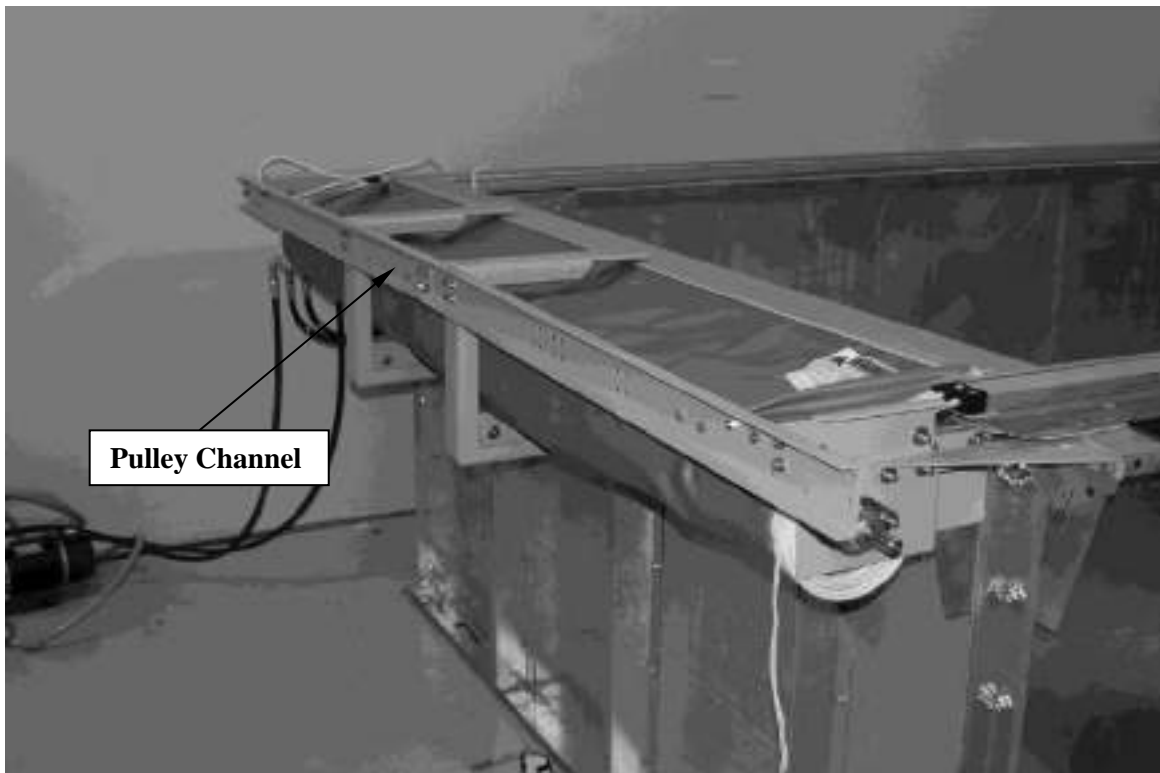

Fig 19
9. Once assembled, level the pulley bracket (left to right) and C-brackets (back to front) and then tighten all hardware (Fig 19). The top surface of the both the C-brackets and the pulley channel must be in the same plane as the top surface of the combination in-wall cover track.